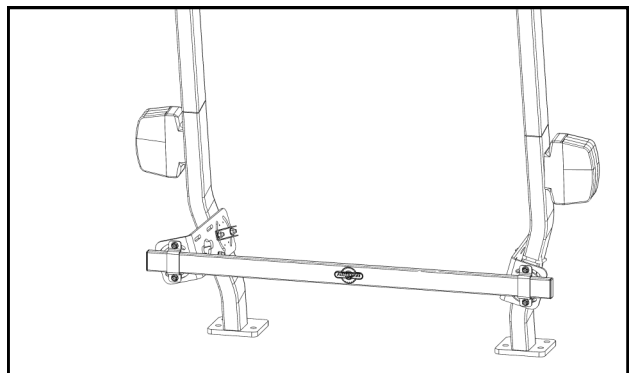

Fig. 4 (Angled ROPS, Brackets shown inside of ROPS)
4. Figure 4 shows a completed installation on an angled ROPS with the ROPS brackets mounted to the inside surface of the ROPS. The ROPS brackets could also be mounted to the outside surface of the ROPS (not shown).